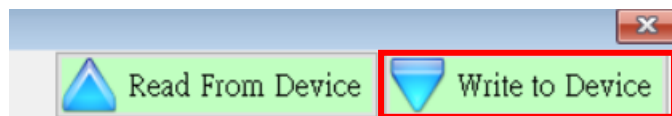
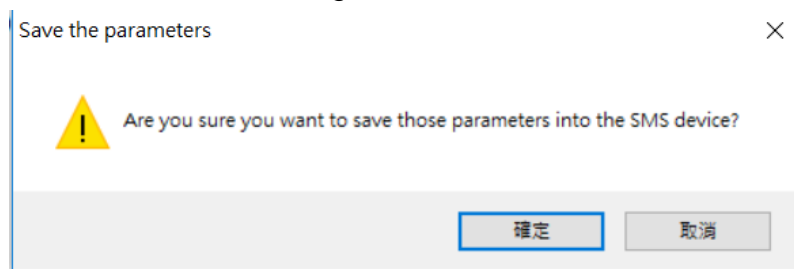
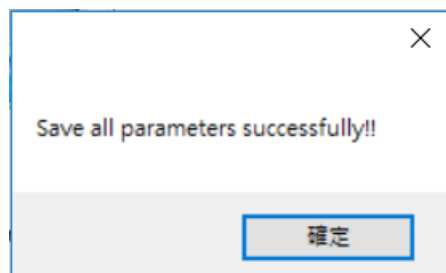

Figure 5.10.31
Figure 5.10.32
Figure 5.10.33
L. After finishing the selection, click “Write to Device”. As shown in Figure 5.10.31, write the settings to GTP-541M. At this time, the confirmation window will pop up and click OK. As shown in Figure 5.10.32, the parameters will be written. After the data is completed, the success window will pop up as shown in Figure 5.10.33